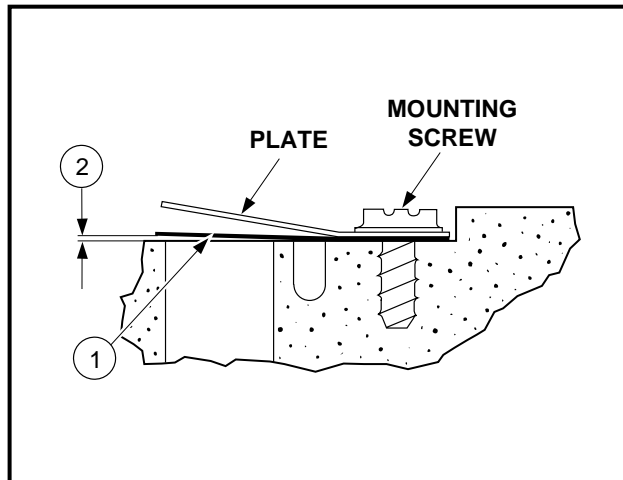

Figure 13-38 Reed Valve
1. Inspect the reed valve (1) for sticking or binding. Replace if necessary (**Figure 13-38, Page 13-21**).
3. Inspect the reed valve (1) seating surface. It must not have any nicks or burrs.
NOTE: Place the reed valve on the seat so there is a slight gap (2) 0.008 inch maximum (0.203 mm) between the valve and the seat (**Figure 13-38, Page 13-21**).